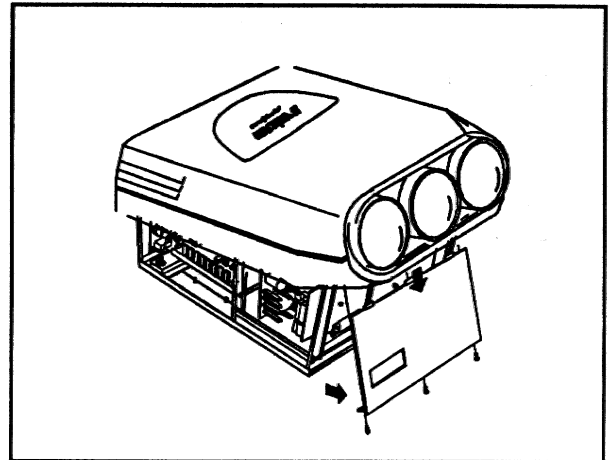

FIGURE 5-5. Front Panel Removal 02080838
- b) Remove the 3 hex head screws securing the front panel to the projector frame as shown in Figure 5-5. Pull the front panel down and away from the projector body.